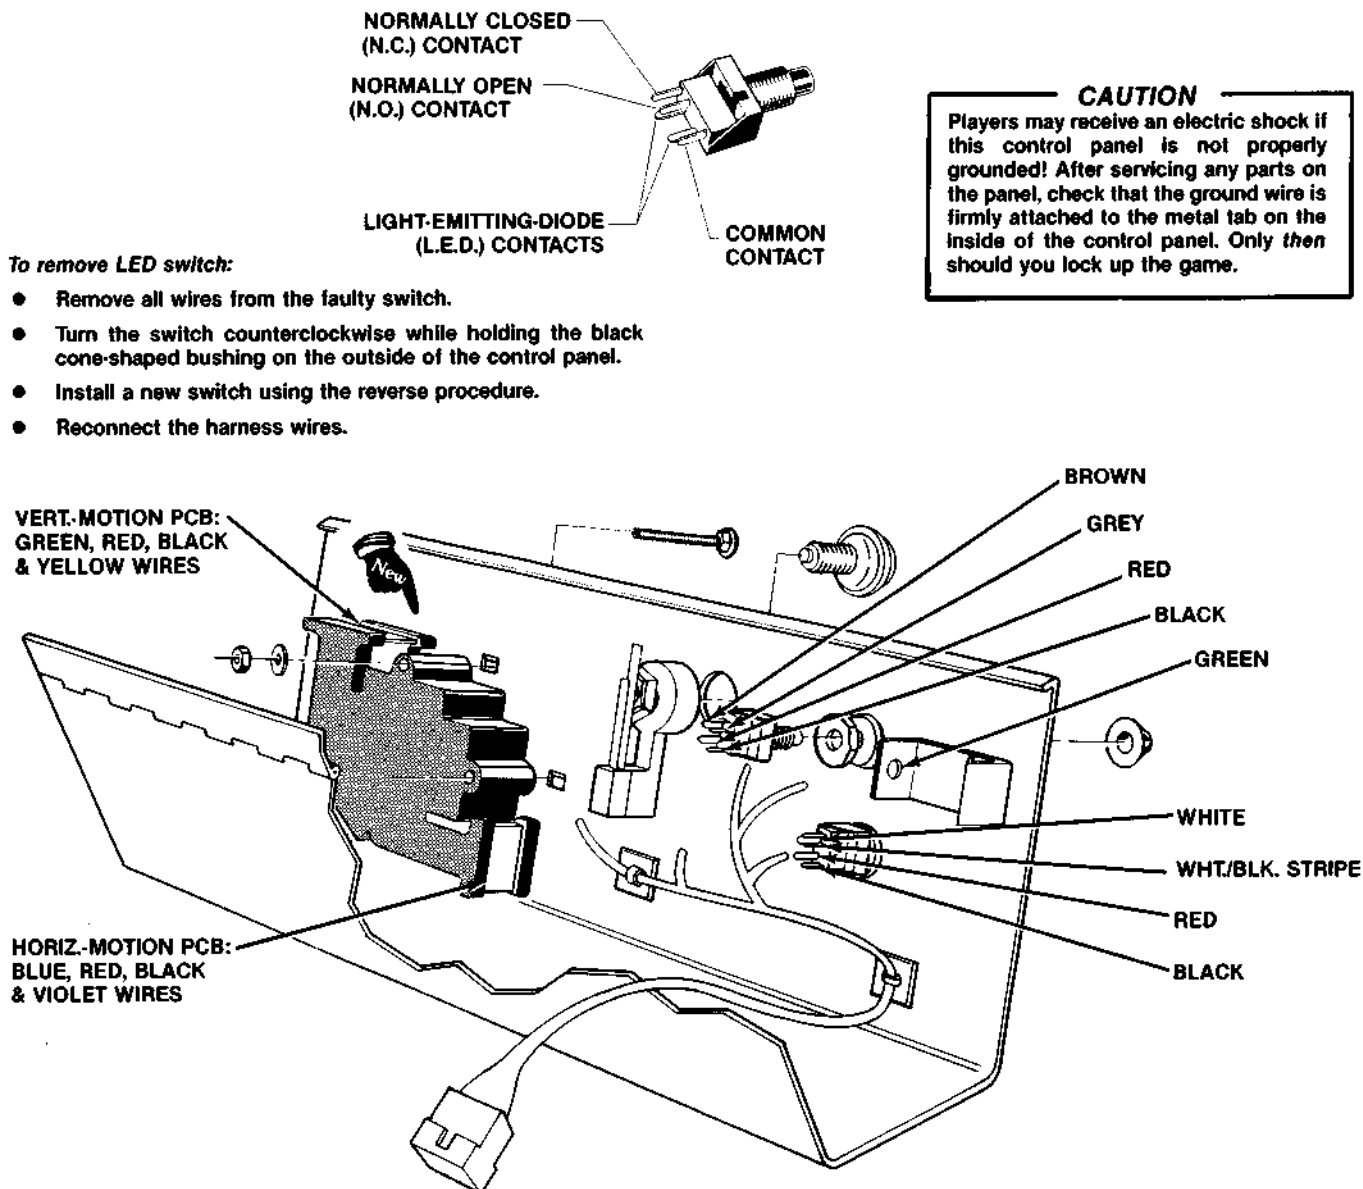

Figure 10 Opening the Control Panel and Replacing Switches
Reach through the coin-door opening and open the luggage-style latch, located at each end on the underside of the control panel (see Figure 10). Lift up on the control panel at the topmost edge and tilt it towards you.
The light-emitting diode (LED) switches on the control panel have a very low failure rate. In case a switch should ever be suspect, first test it per the description that follows. To replace the switch, refer to Figure 10.
3. Connect multimeter leads to appropriate LED switch contacts (see Figure 10 for designation of switch contacts).